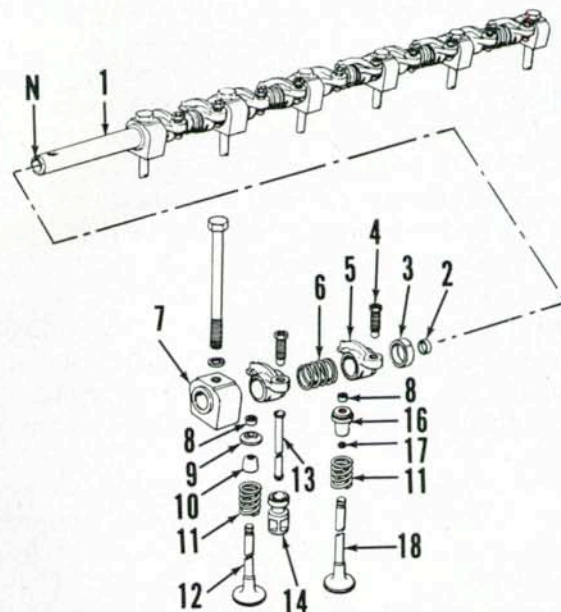

Fig. 86—Exploded view showing rocker arms and valves. Install rocker shaft with notch (N) facing up and toward front of engine.
49. Exhaust valves (18—Fig. 86) are equipped with positive type rotators (16) and use an "O" ring type seal (17) between valve stem and rotator body. Intake valves (12) are fitted with umbrella type oil seals (10). Both the exhaust and intake valves seat on renewable valve seat inserts which are a shrink to fit in cylinder head. Valve guides are integral with cylinder head.
When reinstalling valves, all components should be assembled in their original locations if being reused. Valve stem seals (10 and 17—Fig. 86) and retainer locks (8) should be renewed when reassembling.
**50.** To disassemble rocker arms, withdraw cylinder head bolts from rocker shaft supports (7—Fig. 86) and slide components off the shaft. Rocker arms (5) are interchangeable, but they should be reinstalled in original locations if reused.
When reassembling, be sure notch (N—Fig. 86) in end of rocker shaft is up and toward front of engine. This will correctly locate shaft oil holes. Turn rocker arm adjusting screws out two turns before installing assembly on cylinder head. Tighten cylinder head bolts as outlined in paragraph 48. Adjust valve clearance as outlined in paragraph 51.